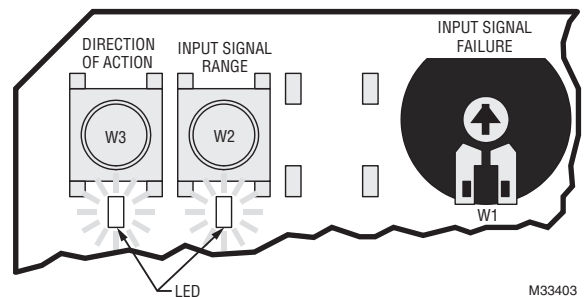

Fig. 15. Pushbuttons and potentiometer (default positions).
The range of the analog input signal (+) can be changed by pressing the right-hand pushbutton (W2) located on the printed circuit board (see Fig. 15). If the corresponding LED is lit, this indicates that the actuator is set for 0 to 10 Vdc operation (factory setting); if it is dark, the actuator is set for 2 to 10 Vdc operation.
Using the potentiometer (W1) located on the printed circuit board (see Fig. 15), the actuator can be adjusted such that in case the signal input fails (e.g., due to a broken wire) or exceeds 12.5 V, the actuator will run to any pre-configured position between 0% and 100%. The factory setting is with the actuator stem in the central position (50%).
The direction of action can be reversed by pressing the left hand pushbutton (W3) located on the printed circuit board (see Fig. 15). If the corresponding LED is lit, this indicates that the actuator stem will be up at a control signal of 0(2) Vdc (factory setting); if it is dark, the actuator stem will be down at a control signal of 0(2) Vdc.